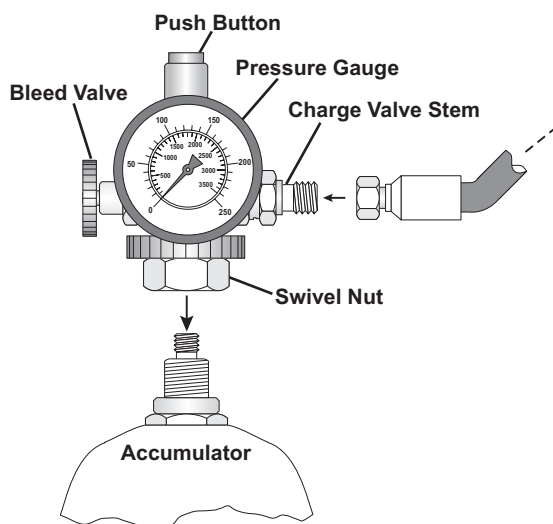

Figure 36
5. Close the bleed valve on the charge valve assembly (turn the valve clockwise until it is all the way in) (Figure 36). If a hose is connected to the charge valve stem, disconnect the hose from the charge valve stem. This step closes the charge valve stem to prevent the gas pressure from escaping out of the hose. It ensures that the initial pressure reading is accurate..
6. Find the swivel nut on the charge valve assembly (Figure 36). Screw the swivel nut onto the accumulator gas valve. Tighten to 10 to 15 in-lbs.
7. After the swivel nut is attached, depress the push button on the top of the charge valve assembly (Figure 36). This presses a pin into the accumulator gas valve and opens it. Read the pressure on the charge valve assembly pressure gauge. The pressure should read 103 bar (1500 psi).